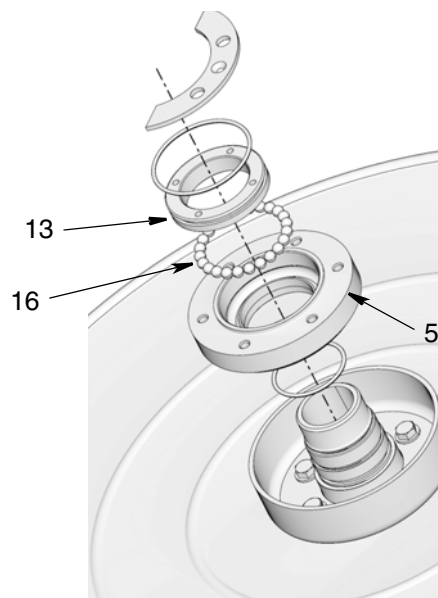

FIG. 25
- Use a spanner wrench to loosen bearing insert (13) nut. Once it is loose you can use your hand to unscrew and remove it (FIG. 25).
- Remove bearing retainer (5).
NOTE: Be careful when you remove the bearing retainer (5) that the bearing balls (16) do not fall out (FIG. 25).